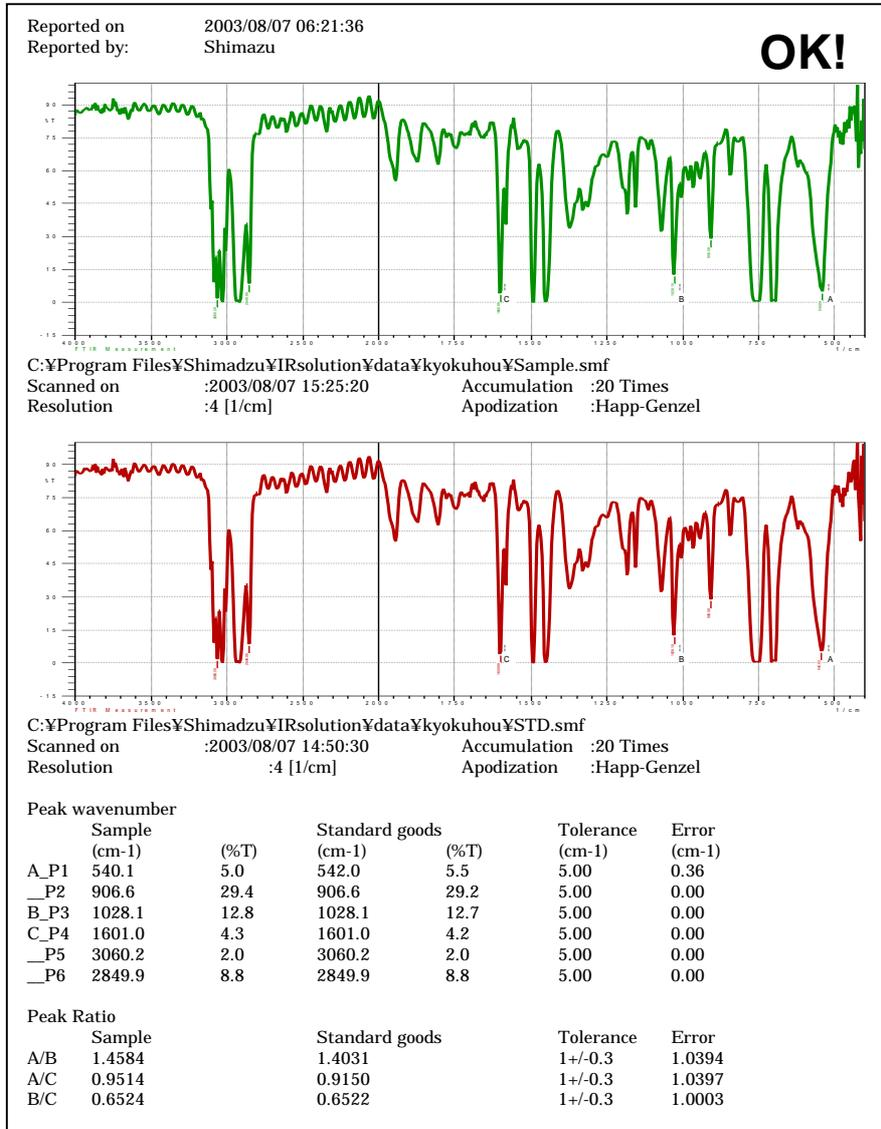

Figure 3-10. Printed report example
5. Click <Yes> button to printout a Report such as Figure 3-10. The program ends if <No> button is clicked.